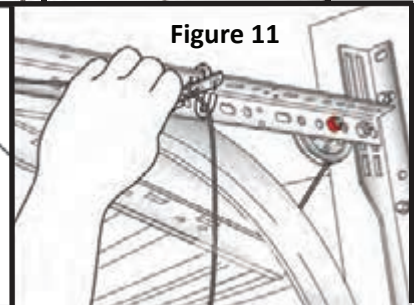

Figure 11
Step 11: Attach the Cable Adjustment Clip to the loose end of the Lifting Cable (Fig 11).